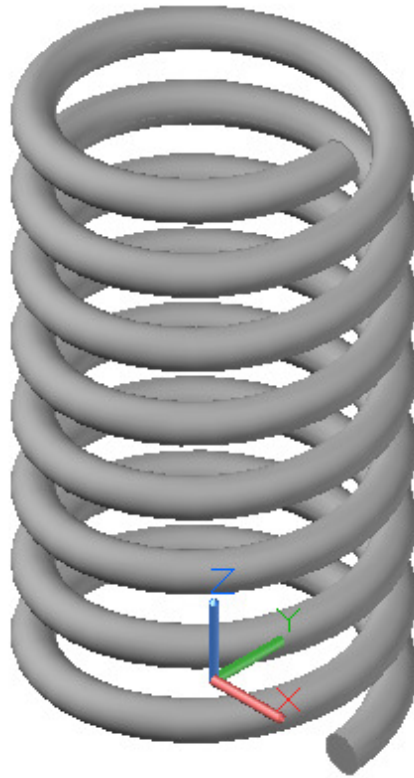

Figure Step 8
Step 8 Turn layers: Helix and Profile off. Set the current visual style to Realistic. Your completed 3D solid coil should appear as shown in the figure. (Figure Step 8)